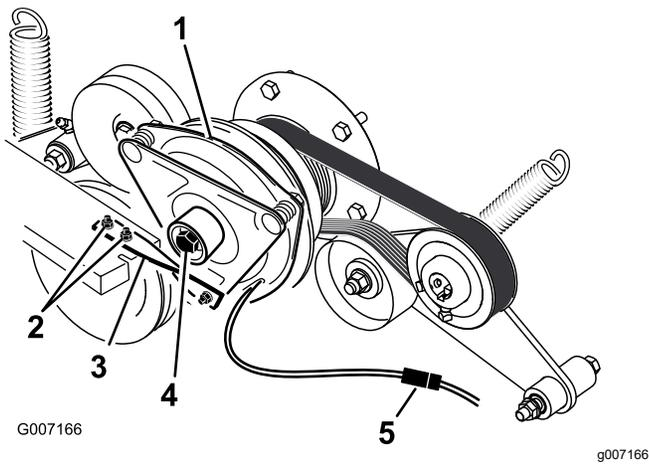

Figure 81
6. Unplug the electric connection for the clutch (Figure 81).
7. Remove the 2 bolts holding the rubber clutch strap to the mower frame (Figure 81).
8. Remove the center bolt holding the clutch to the engine shaft and remove the clutch and key (Figure 81).
16. Install the rubber clutch strap to the mower frame with the 2 previously removed bolts and nuts (Figure 81).
18. Plug in the electric connection for the clutch (Figure 81).
15. While holding the crank shaft at the back of the machine, install the center bolt and torque it to 68 N·m (50 ft-lb) (Figure 81).